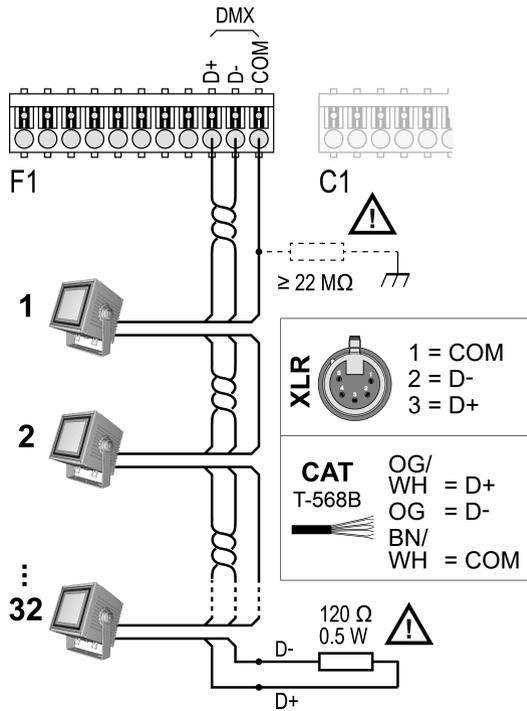

Figure 4: Connecting the DMX bus
- Connect the DMX bus as shown (Figure 4).